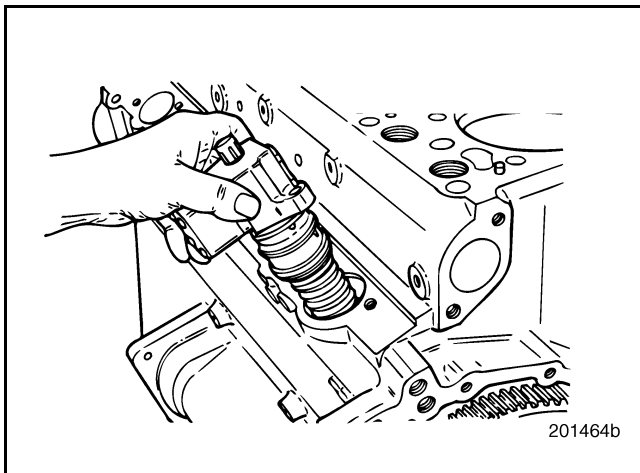

Figure 397 — Unit Pump Installation
2. Generously lubricate the EUP O-rings with clean engine oil and install the No. 1 EUP into the cylinder block (Figure 397).